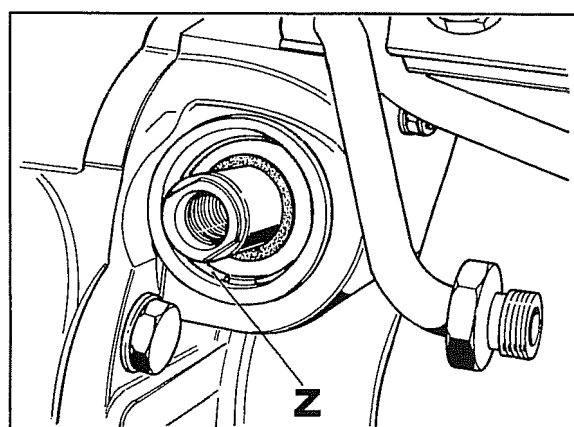

Fig. 71
4. Use the special punch to drive cylinder cover **E** inwards until split ring **Z** Fig. 71, is uncovered and then remove the ring.